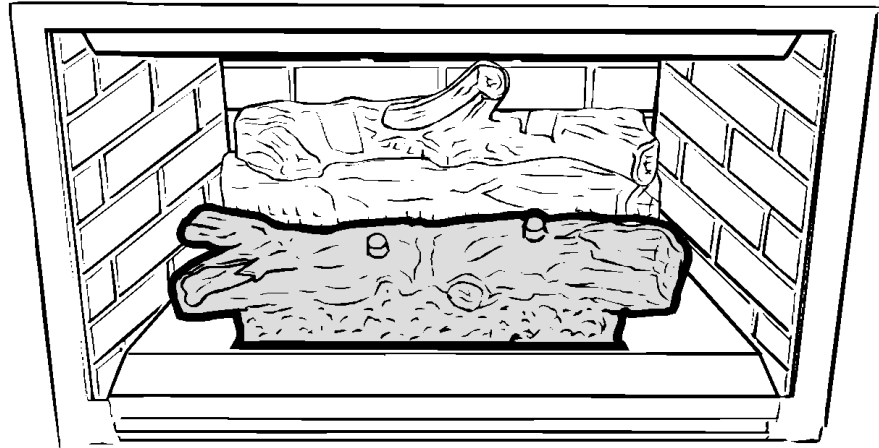

Figure 16. Front log
3. Place the front log in the opening of the firebox base cover. Slide the log forward as far as it will go (See figure 16).